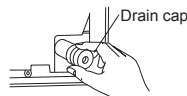

Fig. 1
- The drain hose should point downward for easy drain flow. (Fig. 1)
- Put the refrigerant piping and the drain hose together, then firmly apply felt tape (4) from the end. Felt tape (4) overlap width should be 1/3 the tape width. Use a bandage stopper at the end of felt tape (4).
- Pull out the drain cap at the rear right of the indoor unit. (Fig. 1)